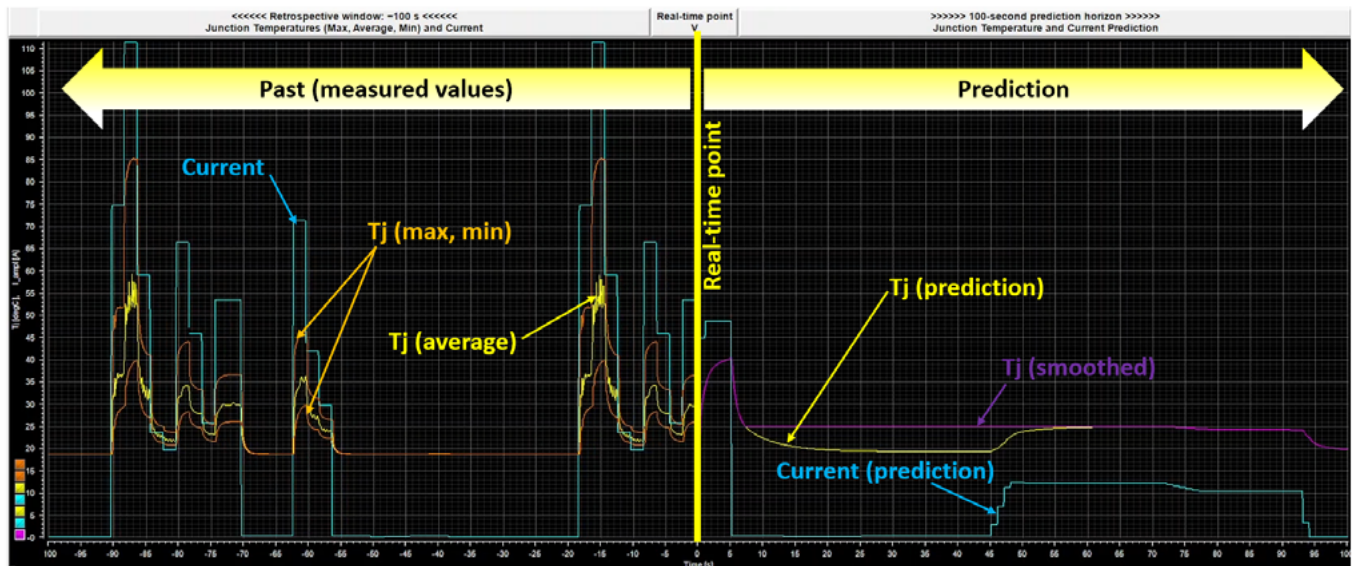

Figure 3: Testing with ZF EcoControl route planning system via cloud
- integration into vehicle control systems for route optimization, as an additional cost function in route planning. This approach was tested with the ZF EcoControl system, and the results of this evaluation are shown in Figure 3.